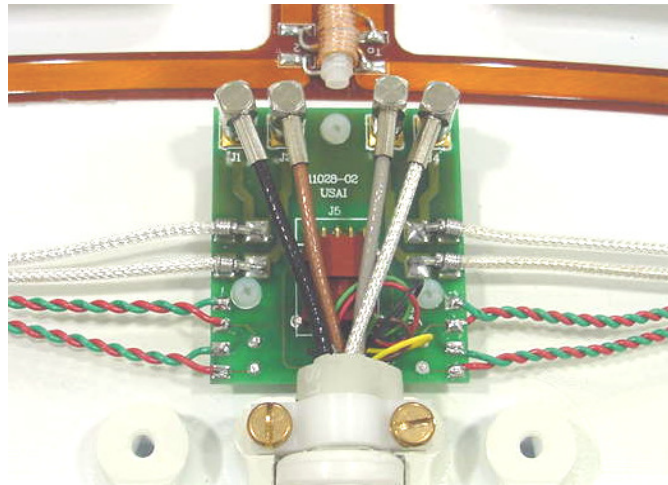

Figure 15: Posterior SMB connector assembly.
Step 5 – Fix a new cable assembly on the posterior section of the coil and reattach the cable lock with two screws. Connect all four SMB plugs and the DC Plug to the corresponding receptacles on the interface board (see *Figure 15*).